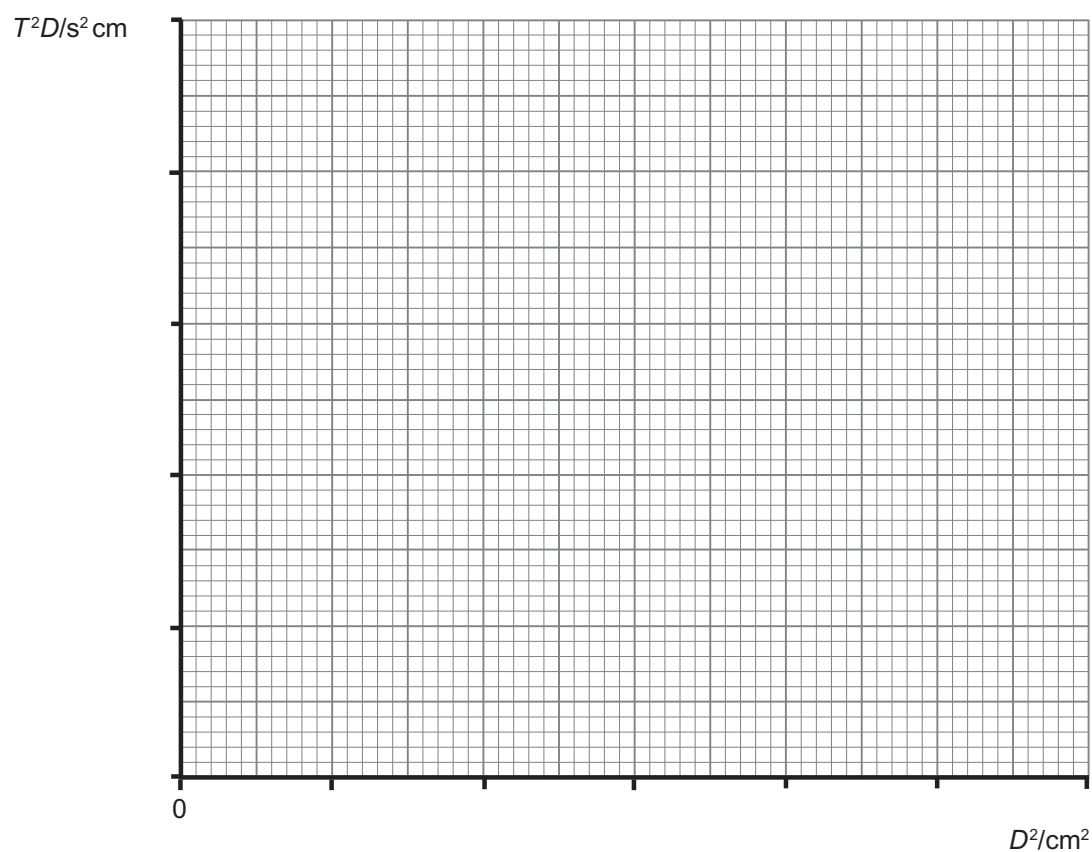

Fig. 1.2
- (c) Plot the graph of T^2D against D^2 on the grid of **Fig. 1.2**. Choose suitable scales, plot the five points and draw the best fit line. Note, the D^2 scale should start from zero. [4]